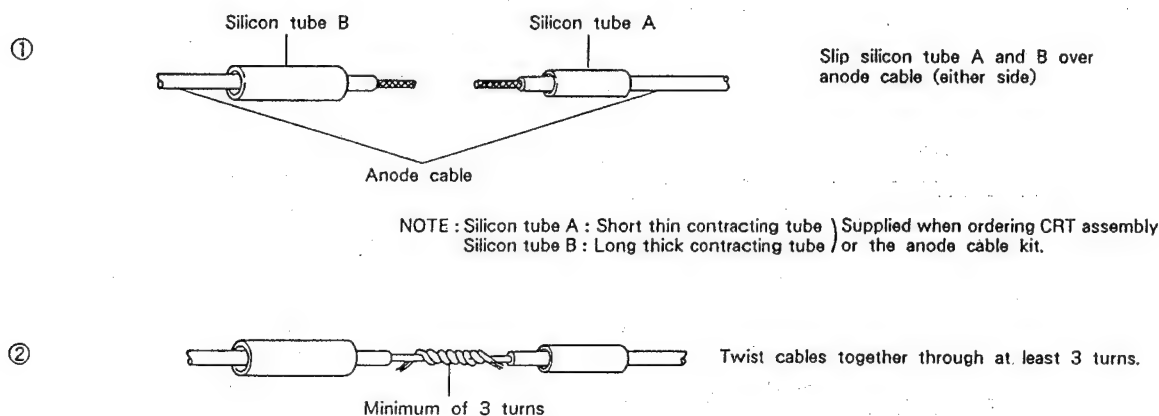

Fig.9-4-1 Anode cable joining procedure (1)
- The silicon adhesive is applied to guard the cable core leads from external air. Apply binder liberally. After completing the joint (at step ⑩ in Fig. 9-4-1 thru 3), make a hole in the silicon adhesive and check that the tube interior cannot be seen.